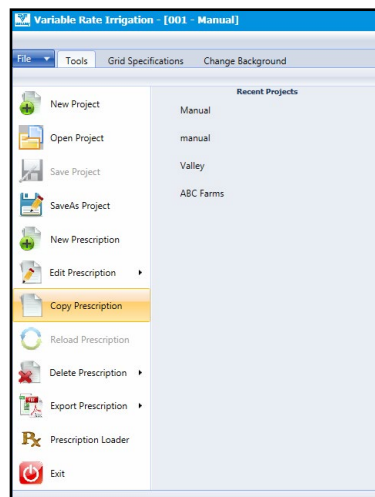

Figure 29-2 1. Copy Prescription
1. Open the project and select **Copy Prescription** in the VRI drop-down menu. See Figure 29-2.